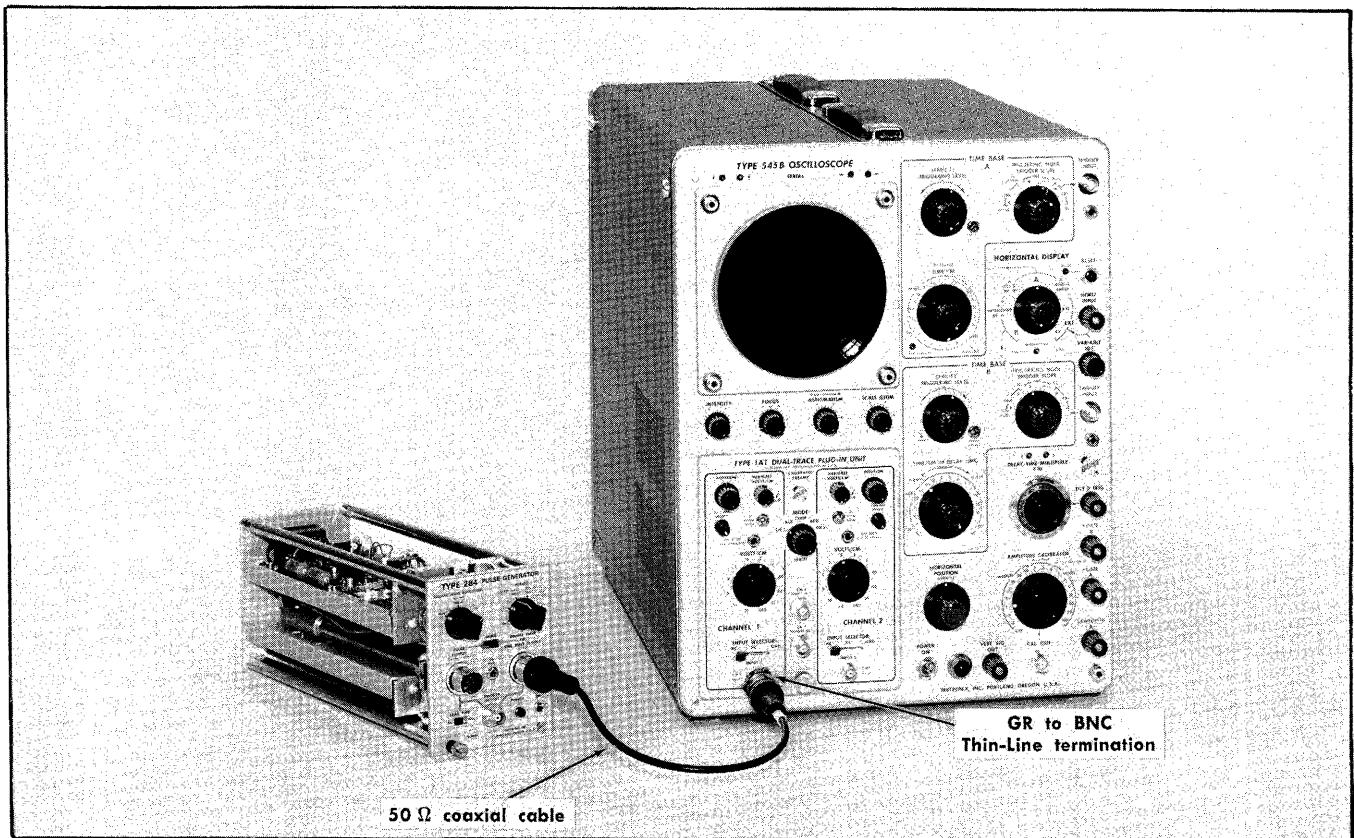

Fig. 6-9. Equipment setup for steps 5 and 6.
5. Adjust 100 ns Drive, L21 ❶
a. Use the equipment setup shown in Fig. 6-9. Obtain a stable display of the 100 ns period 10 MHz square wave signal on the test oscilloscope.